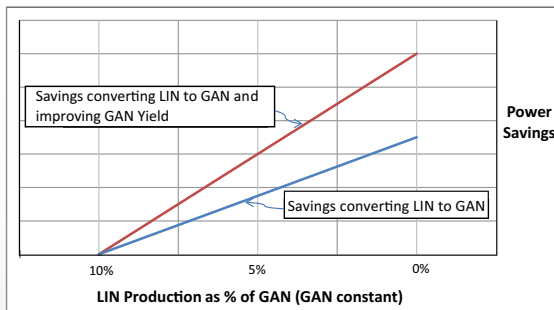

Figure 2: Power Savings As LIN Production Decreases
This patented technology works automatically and includes the following steps: sensing a full storage condition (3), on full storage, routing cryogenic liquid from the bottom of the nitrogen column to an external vaporizer (4), converting the liquid to gas (5), introducing the gas back to the column (6), and using the heat in the returning gas to remove excess refrigeration (7), thereby stabilizing the column at this new design point. The benefits of this design are two-fold: first, the unwanted LIN is converted to GAN and used in the facility without a pump and vaporizer as it would be coming from the storage tank. Converting the LIN to GAN allows the air compressor to be turned down, thus saving power (blue line on Figure 2). Secondly, this modification results in a higher GAN to air yield which allows the air compressor to be turned down even further and produce the same amount of GAN (red line on Figure 2).